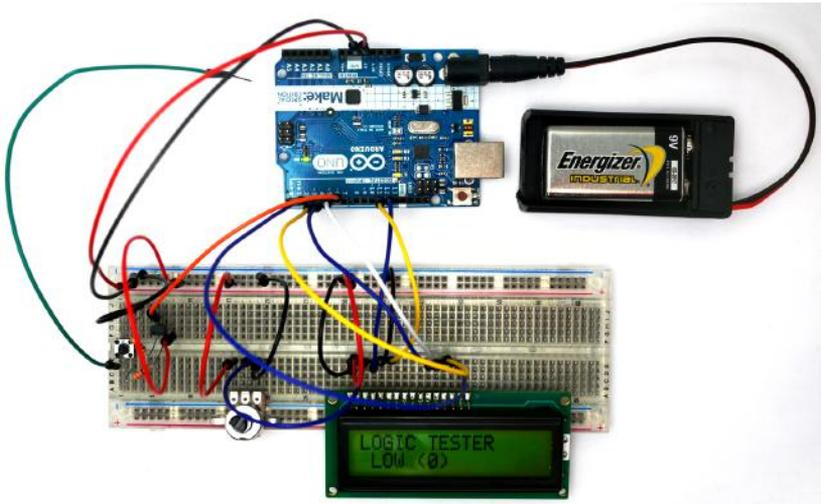
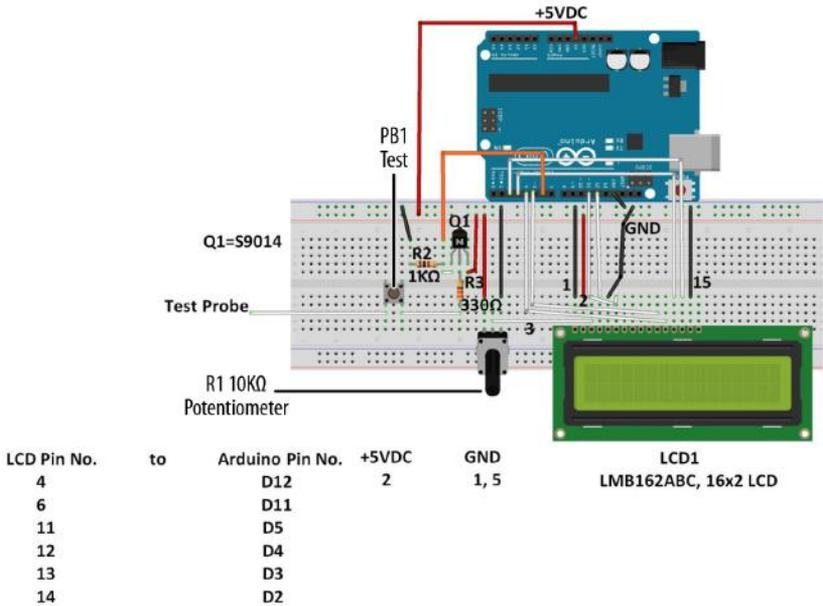

Figure 16-1. *A Logic Tester with an LCD*
Figure 16-2. Fritzing diagram for a Logic Tester with an LCD
The Logic Tester project in Chapter 15 allowed you to check the digital data values the Arduino uses to control motors and LEDs. The tester's two LEDs offer a quick way to see the digital data. In this project, you'll make an awesome change to the tester by displaying "HIGH (1)" or "LOW (0)" data messages on an LCD. The electronic components to build this device are shown in the Parts List. The Logic Tester with an LCD is shown in Figure 16-1.
Building this tester requires the use of an LCD. If this is your first time using an LCD, I suggest reading Chapter 14. For help adding the 16-pin male header to the LCD, see Figure 14-2 and Figure 14-3. The 10K Ω potentiometer's center pin is wired to pin number 3 of the LCD. The potentiometer's remaining pins should be wired to +5VDC and ground. Place the LCD onto the solderless breadboard, as shown in Figure 16-2. LCD pin numbers 1 and 2 are wired to ground and +5VDC, respectively. Adjust the 10K Ω potentiometer contrast control for the LCD for proper pixel-square visibility. For reference on how to do this, see Figure 14-4.
Complete the rest of the tester wiring using the Fritzing diagram shown in Figure 16-2.
Once the Logic Tester sketch has been uploaded to the Arduino, the LCD will display a message, as shown in Figure 16-1. Take the long jumper wire (test probe) from the pushbutton switch and attach it to the +5V source of the Arduino (for reference, see Figure 16-2). Press the pushbutton switch and the LCD will display "HIGH (1)" for the